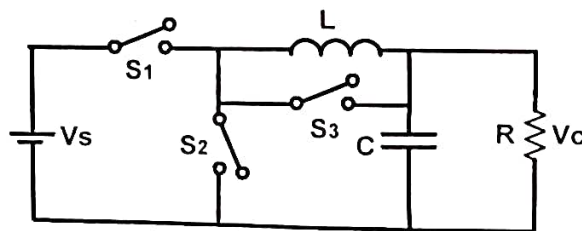

Fig.3
3. Fig.3 shows a switched mode power converter with three switches ( $S_1, S_2, S_3$ ) operating in continuous conduction mode.  $V_s=24V$ ,  $L=60\ \mu H$ ,  $C=100\ \mu F$ ,  $R=5\ \Omega$ . Switching frequency is  $50\ KHz$ . Only one switch will be ON at a time and the switches are turned ON sequentially in the order  $S_1-S_2-S_3$ , in a switching period. Duty ratios ( $T_{on}/T_s$ ) of the switches  $S_1, S_2$  and  $S_3$  are  $0.5, 0.3$  and  $0.2$  respectively.
3. The two-switch forward converter shown in Fig.3 is operating with the following parameters: Input voltage ( $V_s$ )=100V, Load resistance  $R=2\Omega$ ,  $L=24\mu H$ . Duty ratio  $D=0.4$ . Switching frequency is 50KHz. Primary magnetizing inductance is 4mH. The switches  $S_1$ ,  $S_2$ ,  $D_1$ ,  $D_2$ ,  $D_3$  and  $D_4$  have a voltage drop of 1V in the ON-state. The inductor (L) has a parasitic resistance of 0.02  $\Omega$ . Turns-ratio  $N_p:N_s=1 : 0.25$ .
- An ideal boost converter is shown in Fig. 3,  $V_s=10V$ ,  $R=40\ \Omega$ ,  $C=100\ \mu F$ . The switching frequency is  $50\ KHz$  and the duty ratio of the switch  $S_1$  is  $0.5$ .